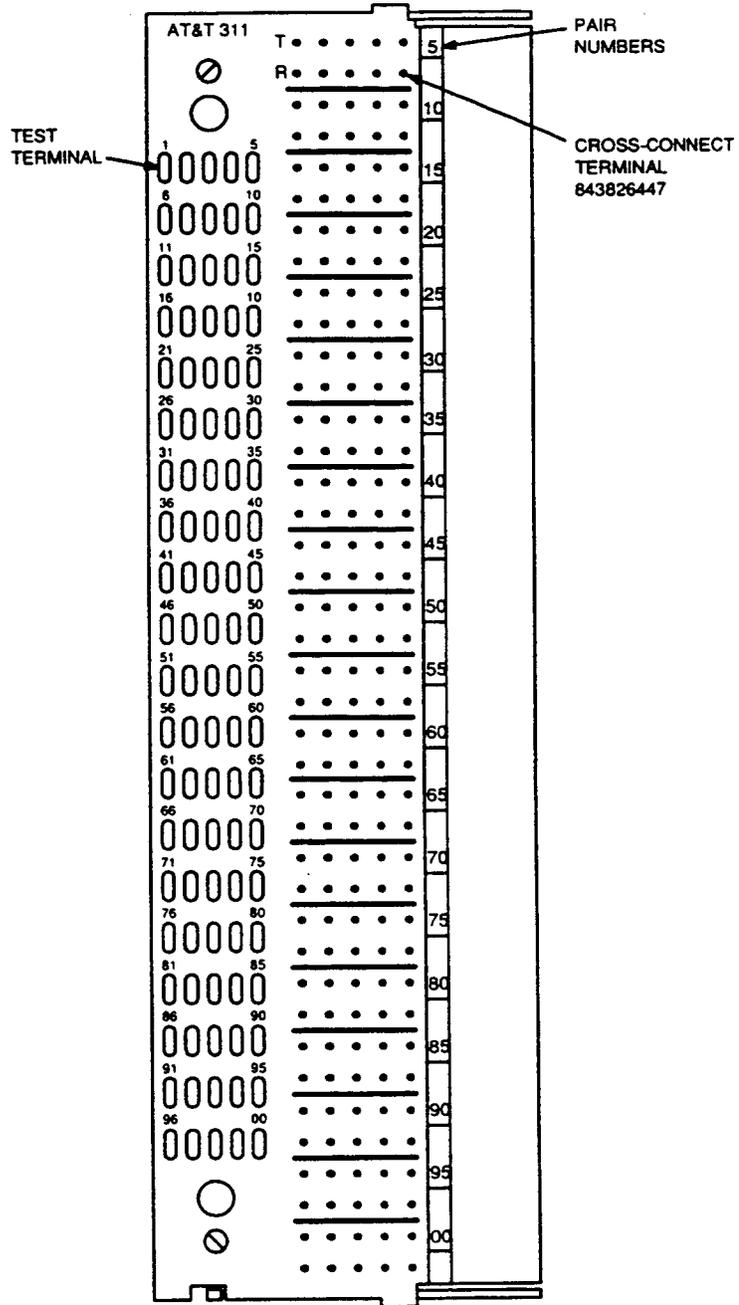

Figure 8. 311-Type Connector, Front View
**4.07** To remove the 843826447 cross-connect tip or ring terminal (Figure 8), proceed as follows: